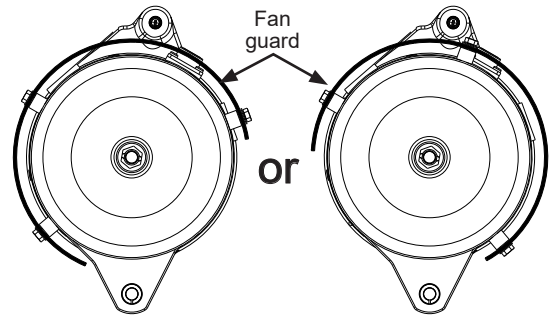

Figure 1: N1245 Fan Guard Mounting Options Anti-Drive End (ADE) View
1. N1245 alternator will ship with fan guard installed in one of two configurations. See Figure 1. If your application requires the fan to be moved to the other location before installation: